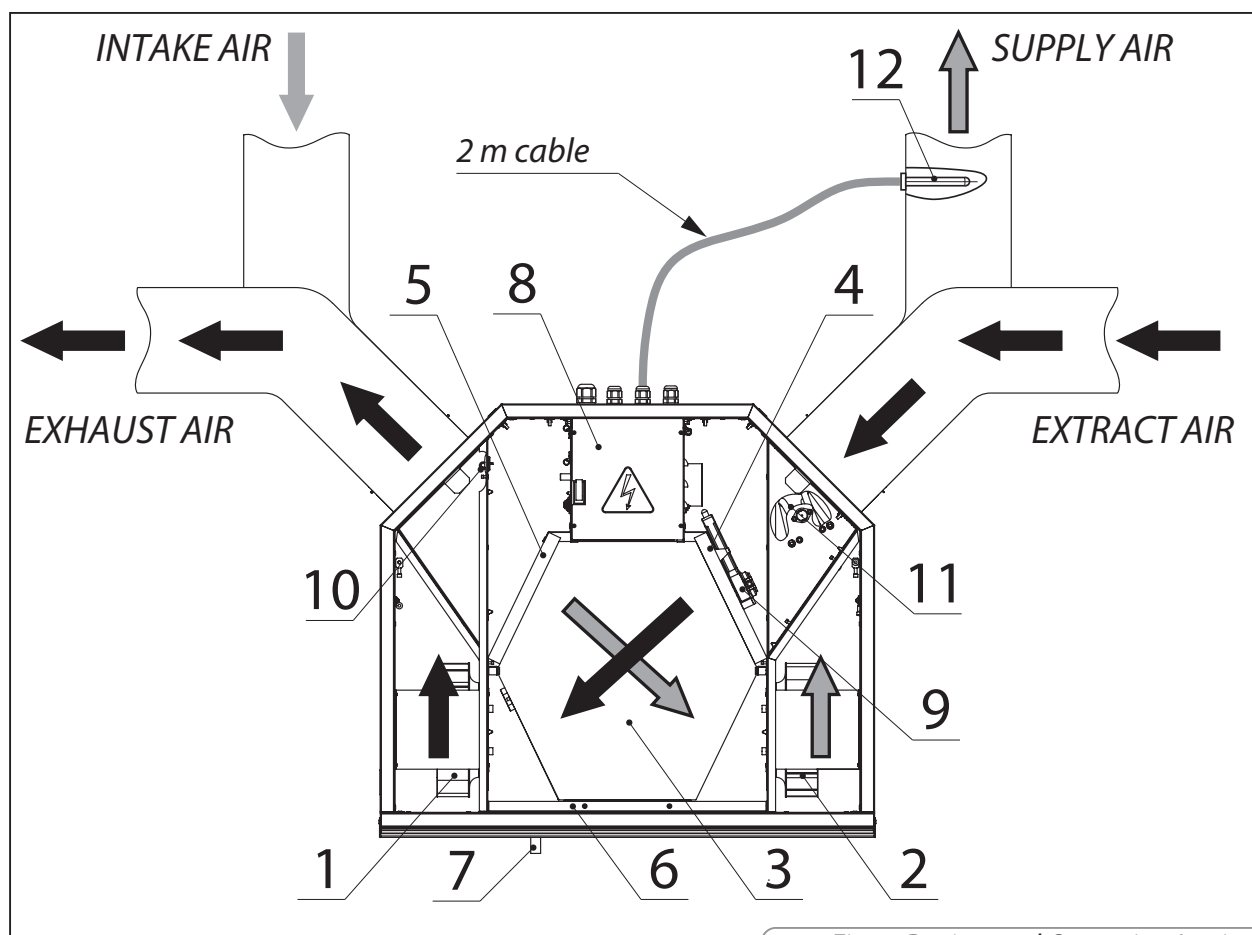

Fig. 2. Design and Operating Logic
The unit design and operating principle are shown on Fig. 2. The warm stale air from the premises is supplied to the device and purified in the exhaust filter, passed through the heat exchanger and then extracted outside via the ducts by the exhaust fan. The cool fresh air from the outside enters the unit through the air ducts and is stripped of impurities in the supply filter.
The unit design and operating principle are shown on Fig. 2.
To ensure correct supply air pre-heating (only applicable to the VUT 350 EU EC) install the duct sensor into the air duct (item 12 on Fig. 2) at the minimum distance of 1 m from the supply spigot.